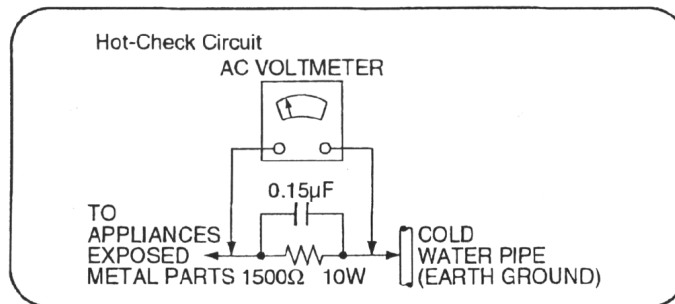

Figure 1
1.1.2. Leakage Current Hot Check (See Figure 1)
2. Connect a $1.5\text{k}\Omega$, 10 watts resistor, in parallel with a $0.15\mu\text{F}$ capacitors, between each exposed metallic part on the set and a good earth ground such as a water pipe, as shown in Figure 1.